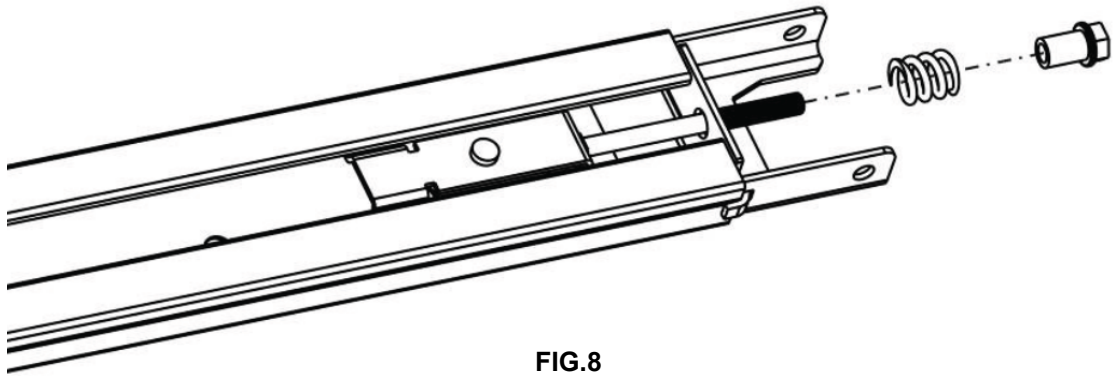

FIG. 8
- As FIG.8, undo the nut and spring;